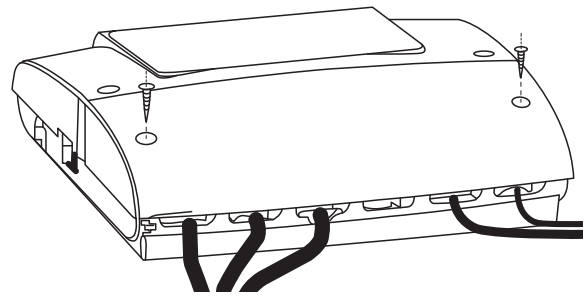

Figure 5-2: Wiring centre terminals cover
1. Remove the terminal cover from the wiring centre housing. Refer to Figure 5-2.